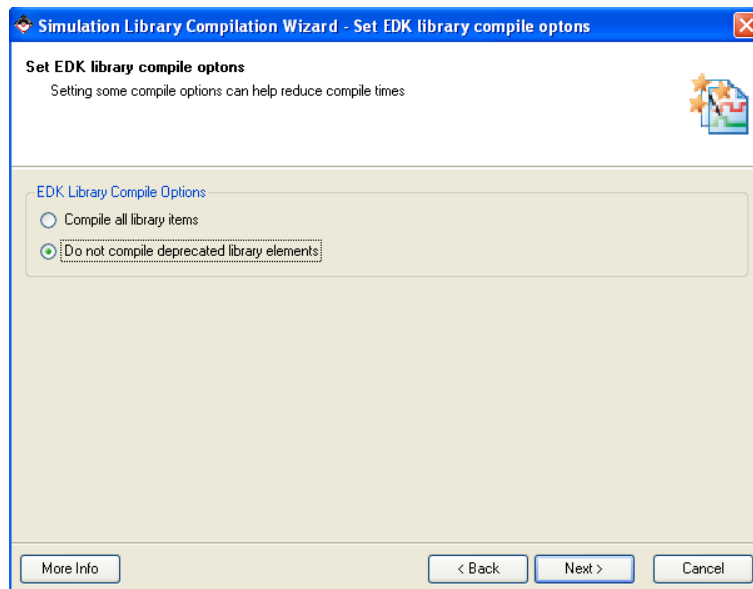

Figure 8: Simulation Library Compilation Wizard - EDK library options
- The next screen is used to setup some options related to the EDK library as shown in Figure 8. Nothing needs to be changed in this screen. **Click Next**.